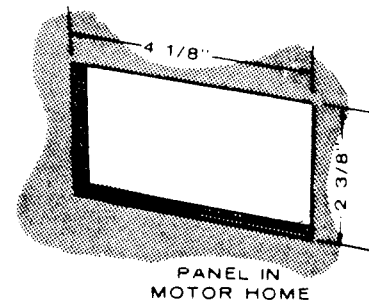

FIGURE 19. MOTOR HOME CUTOUT
1. Select control location. Using Figure 19 as a guide, drill screw holes and cut hole to accommodate remote switch in panel.